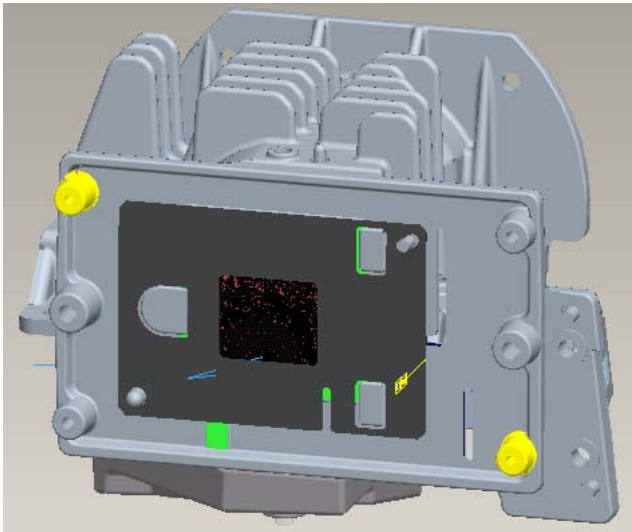

Fig. 10-1
10.1 Assemble Baffle DMD to HSG DMD (Fig. 10-1)